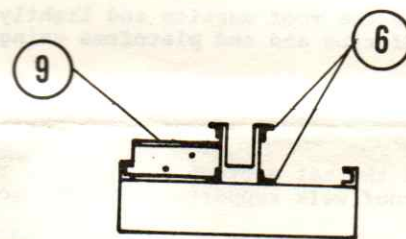

FIG. 4
6. Frame the center sill with 3/64 angle (color code yellow) at the top and bottom of the channel sides as shown in fig. 4.
9. Cut 4 pieces of "I" beams to fit. Notch as shown in fig. 4. Drill holes as required.